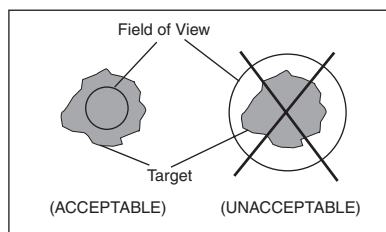
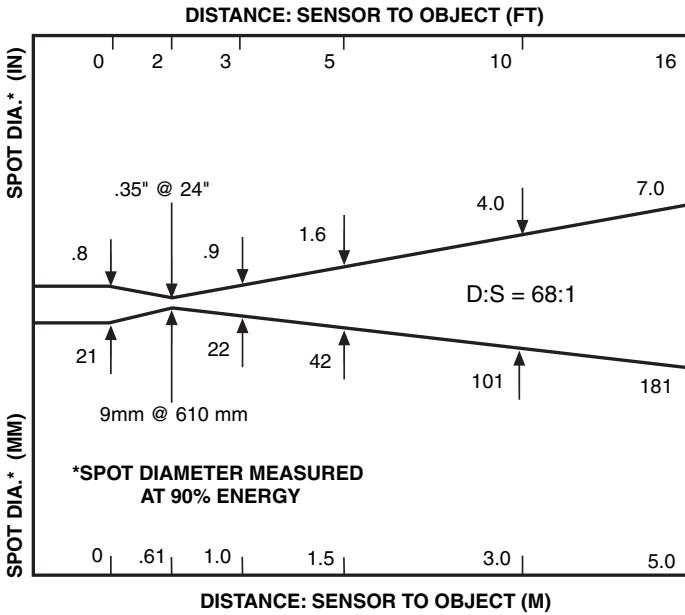

Figure 3-2. Field of View Positions
Figure 3-3. OS550 Series (-1 FOV)
2. The optical field of view of the thermometers sensor head should fall within the area of the target being measured. See Figure 3-2. Figures 3-3 through 3-8 show the fields of view vs. distance for the various thermometers.